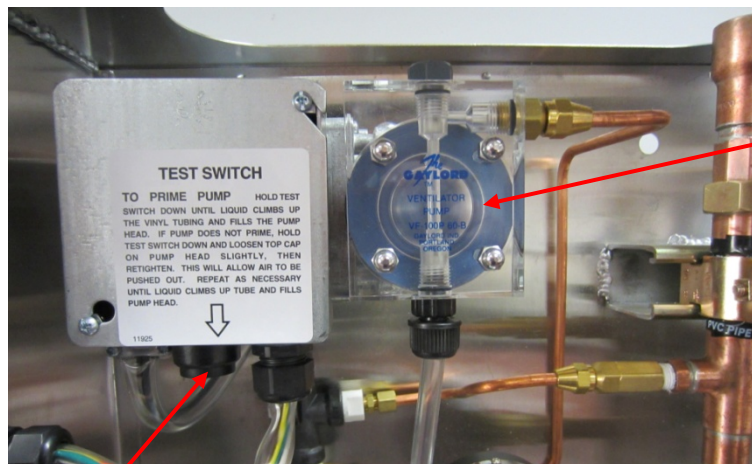

Figure 4-42-1
2. Pump Head (Refer to Figure 4-41-1 and Figure 4-42-1)